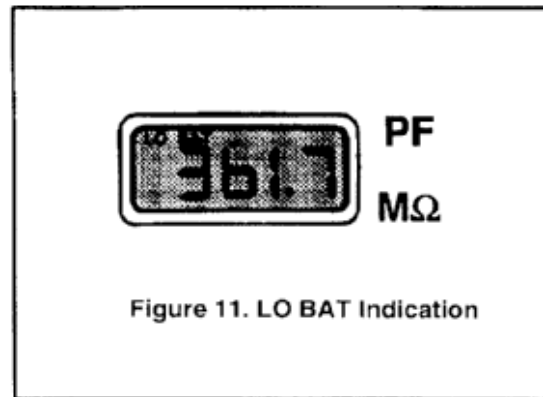

Figure 11. LO BAT Indication
7. Lift latches to unlock tester. Turn ON-OFF switch to ON. If words "LO BAT" appear in upper left corner of LCD display (Figure 11), replace batteries.